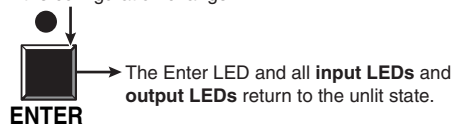

Figure 3-25 — Press the Enter button
5. Press and release the Enter button (figure 3-25).